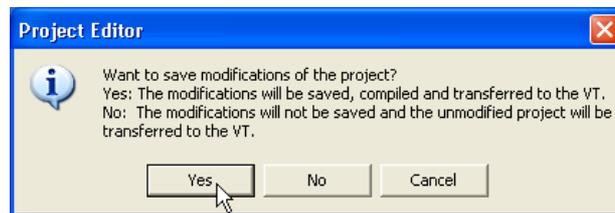

Fig. 34.
3.30 Before compiling make sure you save your project. See Fig. 34.